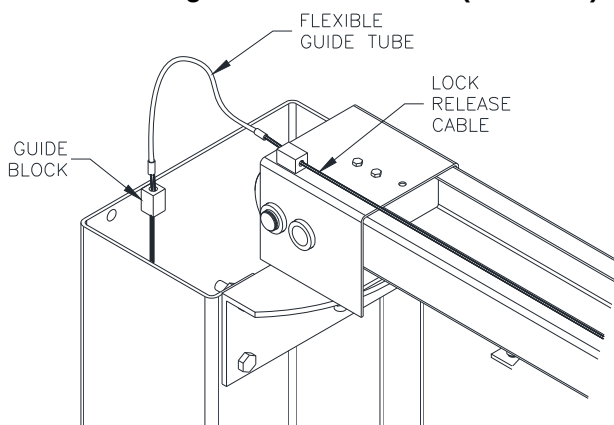

Fig 18b – Lock Release (Idler Side)
- 35) Continue routing the cable up the inside of the Idler Column and through guide block at top of Column Extension. Then route cable through Flexible Guide Tube and guide block on top of Overhead. Insert ends of Flexible Guide Tube into guide blocks. See **Fig 18b**. Reverse this step for the Power side. **IMPORTANT: ENSURE FLEXIBLE GUIDE TUBE DOES NOT CONTACT CYLINDERS WHEN LIFT IS FULLY RAISED.**